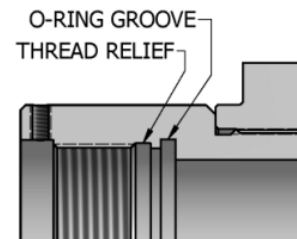

Fig. 3
**CAUTION6:** To ensure tool operates properly, install o-rings in o-ring grooves NOT thread reliefs (Fig. 3).